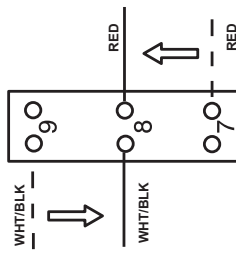
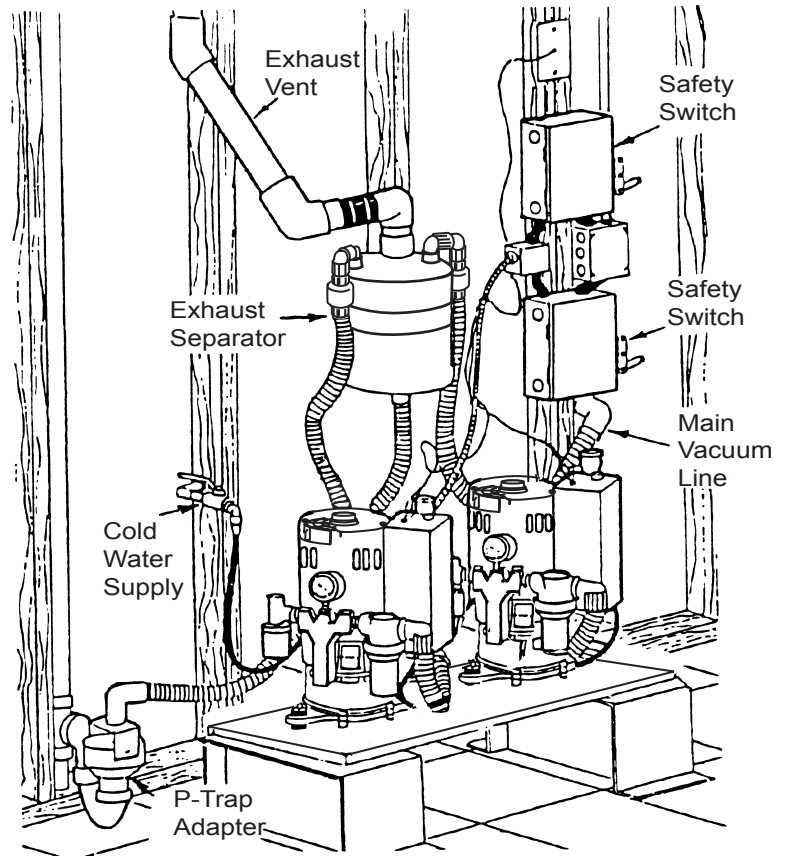

Figure 1: Plumbing Schematic
Figure 3: Typical Dual GoldenVac Vacuum Installation
5. Connect the cold water supply. **DO NOT USE HOT WATER CONNECTION(S)**. Refer to figure 1 on page 5. A separate 1/2" cold water branch is needed for the water intake(s) on GoldenVac units. This is necessary to cool and lubricate the shaft seal. Tech West recommends the water pressure should read between 25 and 55 PSI. Once connected, turn the water supply on to check for leaks in the "Water Connection". Refer to Figure 2 on page 5.
6. Connect adequate waste disposal line(s) to expel both vapor and liquid waste from the unit. The vent size should be 2" in diameter with a waste drain that conforms to local code(s). Please refer to Figures 3 and 4 on page 6 for additional installation information. If installing a Tech West Exhaust Separator and/or Water Separator, please refer to the applicable installation sheet for detailed installation information.
- STEP 2. THIS PIPE SIZE YOU HAVE SELECTED WILL BE THE STARTING LINE OR MAIN LINE AND BEGINS AT THE EQUIPMENT LOCATION. THE VACUUM LINE WILL USE A MAIN LINE RISER ASSEMBLY AS SHOWN IN FIGURES 1 AND 3.
- STEP 3. AFTER FIGURING YOUR MAIN LINE SIZE, YOU MAY SELECT THE BEST LOCATION TO SPLIT YOUR PIPING LINES TO BEST ACCOMMODATE THE OPERATORIES. IN FIGURE 3 WE HAVE SELECTED TO SPLIT THE SYSTEM INTO TWO ZONES; "A" AND "B". EACH ZONE BECOMES ITS OWN SYSTEM FOR PURPOSES ON SIZING THE LINES PROPERLY. IF OPERATORIES ARE IN A STRAIGHT LINE, ZONE SPLITTING WILL NOT BE REQUIRED; SEE NOTE FIG. 2.
- STEP 4. STARTING FROM ZONE SPLIT LOCATION, COUNT REMAINING OPERATORIES AND LOOK AT THE SIZING CHART IN FIGURE 2. SELECT CORRECT BRANCH ZONE LINE DIAMETER. IN FIGURE 3, ZONE "B" HAS 3 OPERATORIES REMAINING WHICH CORRESPONDS WITH 1" VACUUM LINE AND 1/2" AIR LINE IN FIGURE 1 LINE SIZING CHART. THIS SIZING LOGIC WILL CONTINUE TO THE LAST INLET ON ALL ZONES.
NOTE: FOR INFORMATION ON CORRECT TERMINATION SIZE AT JUNCTION BOX SEE FIG. 3 NOTE 2.
TO PREVENT SUCTION LOSS, DO NOT ALLOW A TRAP TO BE PLUMBED AT ANY LOCATION IN THE SYSTEM EXCEPT MAIN LINE RISER ASSEMBLY (FIG. 1) AND OVERHEAD VERTICAL RISER (FIG. 5).